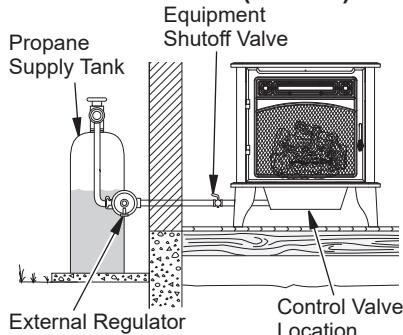

Figure 11 - Checking Gas Joints for Propane Gas
3. Check all joints from gas meter to equipment shutoff valve for natural gas or propane supply to equipment shutoff valve for propane (see Figure 11 or 12). Apply a noncorrosive leak detection fluid to all joints. Bubbles forming show a leak.
4. Check all joints from equipment shutoff valve to control valve (see Figure 11 or 12, page 14). Apply a noncorrosive leak detection fluid to all joints. Bubbles forming show a leak.